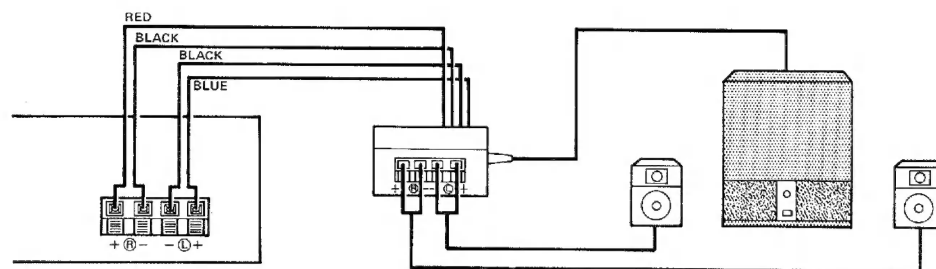

Fig. 1
1. If your amplifier does not have terminals for both A and B speaker pairs, connect the NS-W1 and the speakers to the mixing adaptor as shown in Fig. 1. The mixing adaptor connects to the speaker terminals on the rear panel of your amplifier as shown.
Figure 1 is a line graph showing the frequency dependence of the normalized intensity of the first harmonic of the scattered light. The x-axis represents frequency in Hz, with major ticks at 30, 50, 100, 200, and 300. The y-axis represents normalized intensity, with major ticks at 0, 0.2, 0.4, 0.6, 0.8, and 1.0. Three curves are plotted, each labeled with a text box and an arrow pointing to the curve: